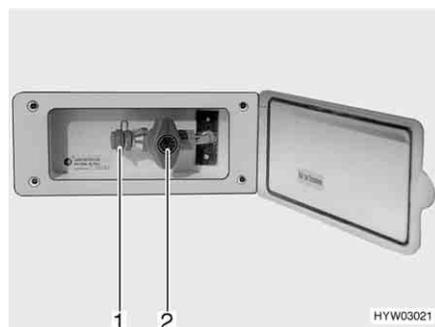

Fig. 144 External gas connection, gas isolator tap closed
The external gas connection (Fig. 144) is located at the rear or to the left or right of the vehicle depending on the model.
- Connect the external gas device to the connection point (Fig. 144,1).
- Open the gas isolator tap (Fig. 144,2).